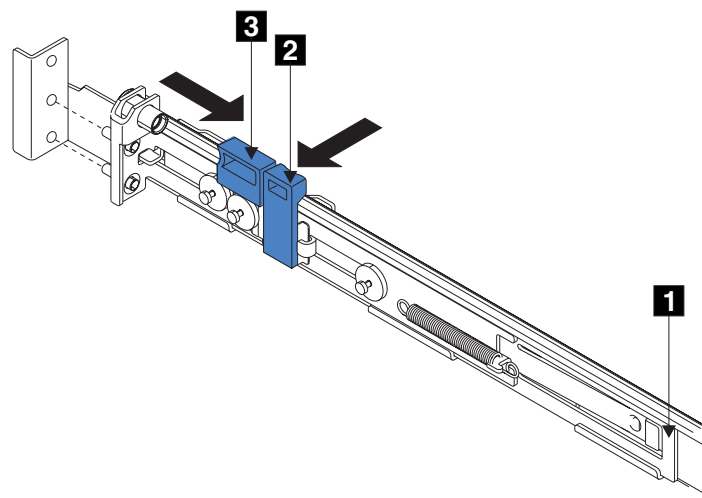

Figure 127. Opening the back latch-lock carrier assembly
7. Push the back rail bracket **1** (Figure 127) toward the front of the rail until it stops. The rail is now at its shortest adjustment.
14. Push the back rail bracket **1** (see Figure 127 on page 181) toward the rear of the rack and align the locating pins with the rack-mounting flange.
15. Push the latch lock **2** (see Figure 127 on page 181) away from the rail to release the carrier. The latch-lock carrier slides toward the rear of the rack, and the locating pins project through the holes that are in the rear flange and in the rear rail bracket.